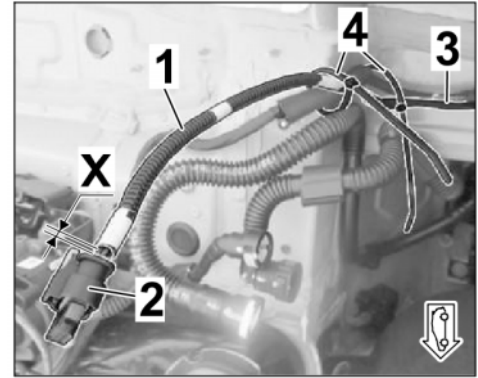

Figure 39
- 3.4.5 Install corrugated hose 4.5 x 7.6 x X to each branch from a distance of approx. 30 mm/ 1.18 in from the connector (socket housing 4-pin) to the underbody (⇒ *Figure 39*).